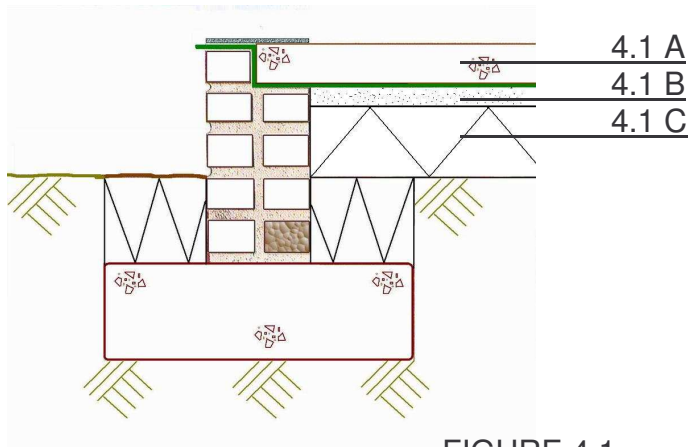

FIGURE 4.1
4.1 Answer the following questions on the floor construction in figure 4.1.